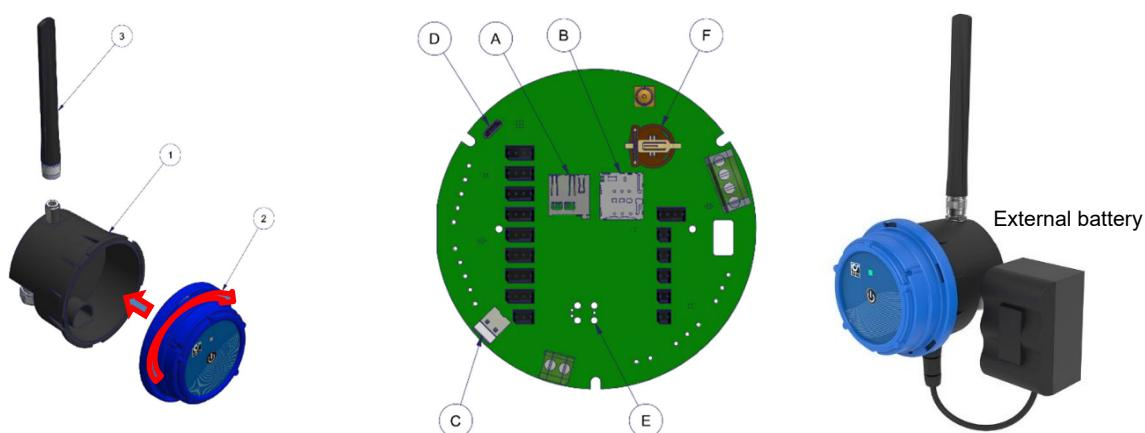

Figure 3 Body (1) and head (2) assembly
1. Connect the antenna (3) to the product (if present) (1).
2. Insert the SIM card in the base (if present) (B).
4. Close the body (1) by rotating the head (2), see Figure 3 below. **!** **Do not force closure!** If the two parts of the housing cannot be fit together properly, make sure there is no pinched cable or dust.